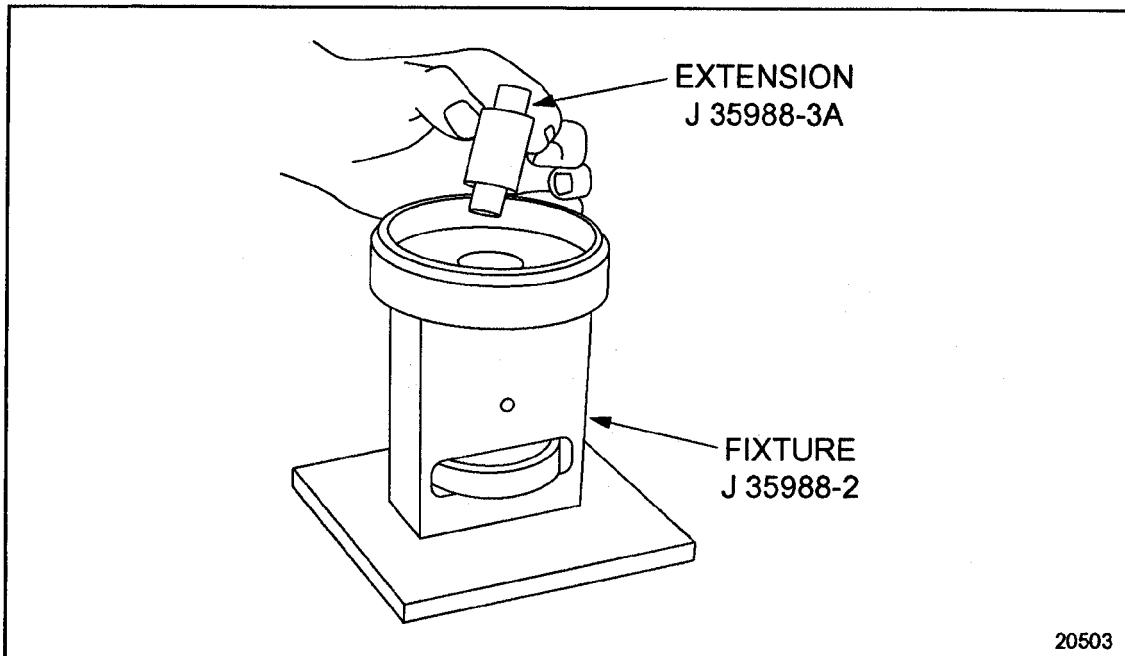

Figure 4-55 Support Installation (FM)
12. Install J 35988-3A , part of tool set J 35988-B, to the fixture tool. See Figure 4-55.